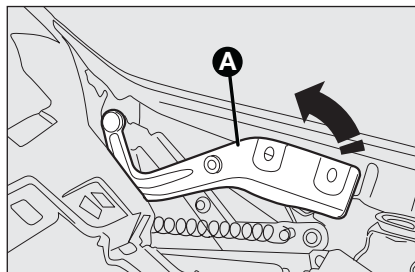

fig. 95
- ☐ lift the engine hood support lever **A**-fig. 95 and accompany it until it snaps into position.